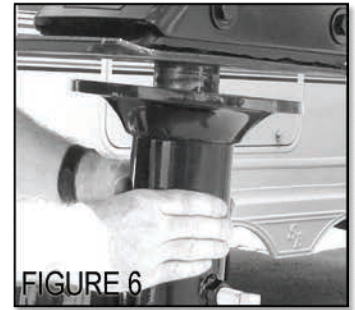

FIGURE 6
6. Locate the Ranch Hitch Adapter base and apply anti-seize grease to its inner threads. Thread it clockwise onto the seated collar, being careful not to cross-thread the base (**see figure 6**). Spin the base onto the collar –it should spin very easily– until the base contacts the bottom of the pin box. Inspect the base/pin box contact area and make sure the two touch each other without any gaps.